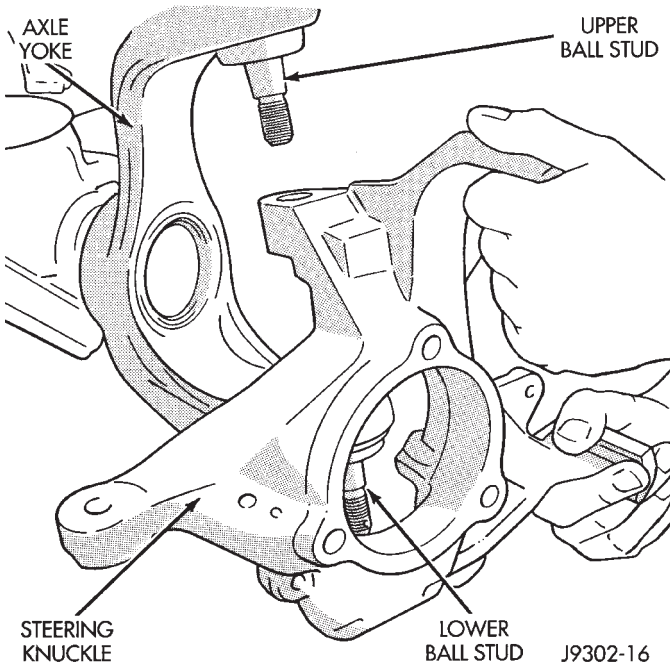

Fig. 21 Steering Knuckle Removal/Installation
- (1) Remove hub bearing and axle shaft.
- (2) Disconnect the tie-rod or drag link from the steering knuckle arm. Refer to Group 2, Suspension, for proper procedures.
- (3) Remove the cotter pins from the upper and lower ball studs.
- (4) Remove the upper and lower ball stud nuts.
- (5) Strike the steering knuckle with a brass hammer to loosen knuckle from the ball studs. Remove knuckle from ball studs (Fig. 21).